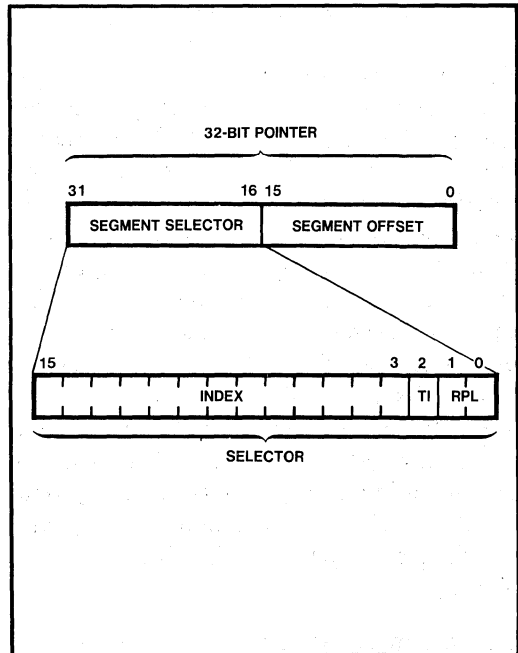

Figure 6-1. Format of the Segment Selector Component
In Protected Mode, application programs deal exclusively with virtual addresses; programs have no access whatsoever to the actual physical addresses generated by the processor. As discussed in Chapter 2, an address is specified by a program in terms of two components: (1) a 16-bit effective address offset that determines the displacement, in bytes, of a location within a segment; and (2) a 16-bit segment selector that uniquely references a particular segment. Jointly, these two components constitute a complete 32-bit address (pointer data type), as shown in figure 6-1.
An important difference between Real Address Mode and Protected Mode, however, concerns the actual format and information content of segment selectors. In Real Address Mode, as with the 8086 and other processors in the iAPX 86 family, a 16-bit selector is merely the upper bits of a segment's physical base address. By contrast, segment selectors in Protected Mode follow an entirely different format, as illustrated by figure 6-1.
Two of the selector bits, designated as the RPL field in figure 6-1, are not actually involved in the selection and specification of segments; their use is discussed in Chapter 7.
The TI bit in the segment selector (see figure 6-1) determines which of two descriptor tables, either the GDT or the current LDT, is to be chosen for memory mapping. In either case, using the GDTR or LDTR register, the processor can readily determine the physical base address of the memory-resident table.